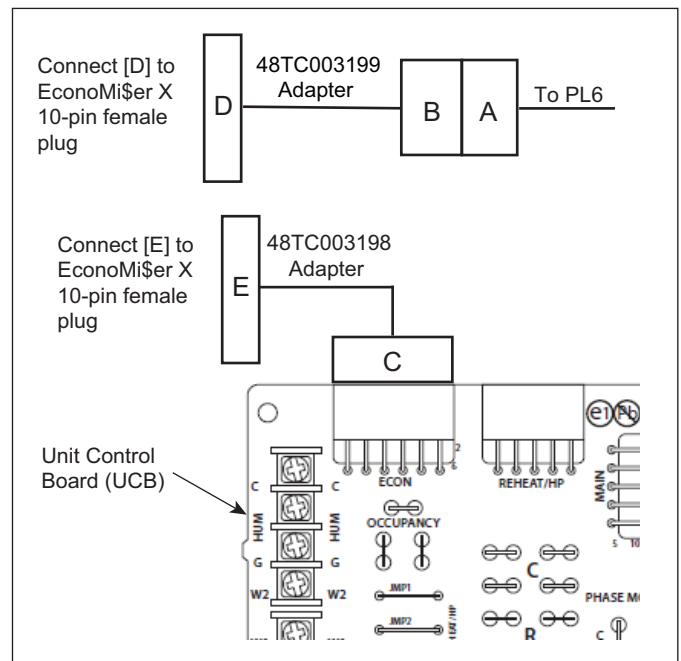

Fig. 35 — Connections After Adapters Installed
- Connect the 12 pin end female (B) of the harness adapter PN #48TC003199 to the standard unit ECON harness (A) previously disconnected from the UCB. (See Fig. 35.)
- Connect the 10-pin female end (D) of the harness adapter PN# 48TC003199 to the 10-pin male plug from the W7220 controller. (See Fig. 35.)
- Connect the 12-pin male plug (C) of the adapter PN# 48TC003198 to the UCB ECON plug. (See Fig. 35.)
- Connect the 10-pin male (E) plug onto PN# 48TC003198 adapter to the 10-pin female plug from W7220 controller. (See Fig. 35.)